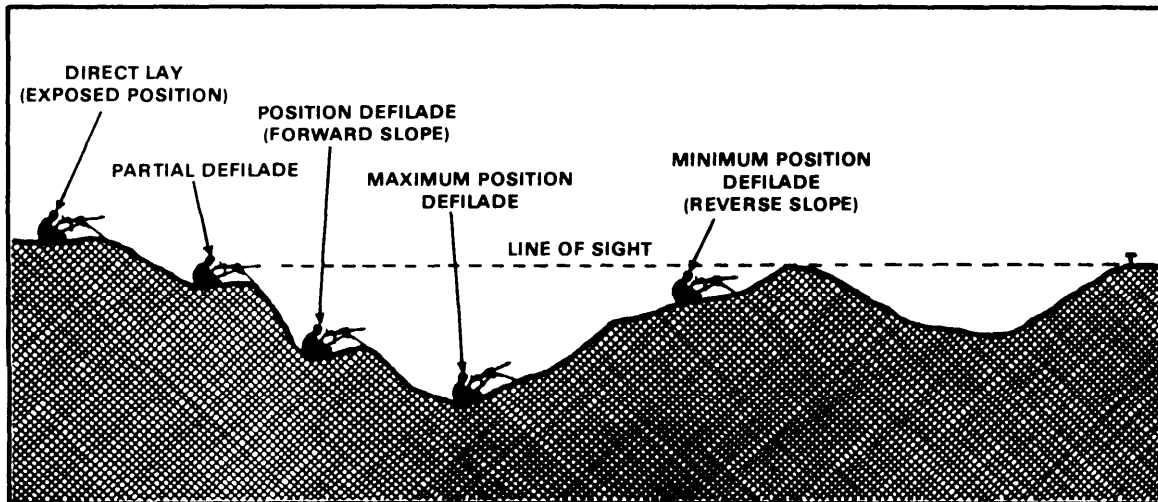

Figure 6-21 Defilade positions (and direct lay).
a. Definition. A MK 19 is in defilade position when the gun and its crew are hidden, by a crest or mask, from enemy ground observation and small-arms fire (Figure 6-21). The position may be on the reverse slope of the mask, on the forward slope of the next high ground to the rear of the mask, or in a small fold in the ground. A defilade firing position does not necessarily reduce the effectiveness of fire against a stationary enemy target or preclude fire over the heads of friendly troops. Defilade may also be useful in providing predetermined fire into an EA.